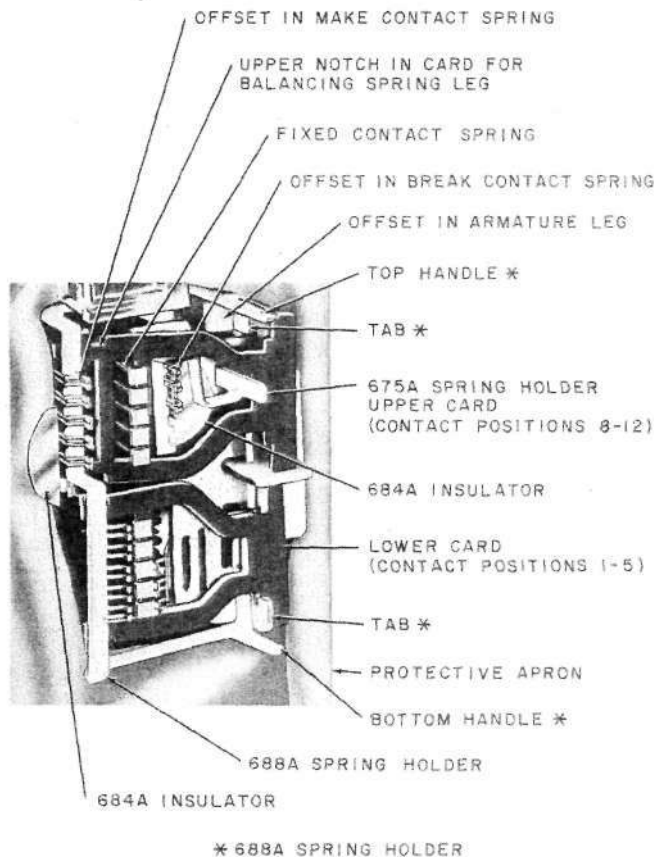

Fig. 3—688 Spring Holder Mounted on AK-Type Relay
lower card as covered in 3.16 if replacing contacts in positions 1 through 5. (See Fig. 3.)
- (3) To disengage the inner balancing spring leg from the card, hold the orange stick in the right hand and insert it between the two cards so the end of the orange stick is against the front molded section. Rotate the orange stick to separate the cards. With a second orange stick, push down on the end of the balancing spring leg and disengage it from the notch in the card. After both legs of the balancing spring are disengaged, remove the blocking tool. Figure 3 shows the balancing spring legs disengaged from the upper card.
(1) If there is an AF-, AG-, AJ-, AK-, AL-, or AM-type relay mounted at the left, insert the 684A insulator to prevent shorting of the movable make contact springs against the core plate of the adjacent relay when these springs are held out of the comb grooves for replacement of contacts. If the relay is mounted adjacent to other apparatus against which the make contact springs may be shorted, insert a 684A insulator between the adjacent apparatus and one or both of the disengaged balancing spring legs as necessary.
(2) To insert a 684A insulator to prevent shorting of the make contact springs, proceed as follows. Using a KS-6320 orange stick, move the inner balancing spring leg to the right. Hold the insulator with the offset end to the left, and insert the other end between the balancing spring leg and the core plate of the adjacent relay. Release the balancing spring leg so it presses against the insulator. With the KS-8511 tweezers, position the insulator so it will insulate all make contact springs from the core plate. With the protective apron in place around the relay, the outer portion of the insulator should rest against the apron as shown in Fig. 3. Due to variations in positioning of the apron, it would be undesirable to rely on the apron to insulate the make contacts.
(1) On these relays, insert a 684A insulator, as covered in 3.17, to prevent shorting of the movable break contact springs with the contact cover spring or core plate during replacement of fixed contacts.
(2) After positioning the insulator as covered in (1), insert spring holders to hold the break contact springs away from the fixed contacts. The 675A spring holder is used for break contact springs in the upper half of the relay (positions 8 through 12) and the 675B spring holder for break contact springs in the lower half (positions 1 through 5). Each of the spring holders has five notches to engage the five pairs of break contact springs with which it may be used. It is important that the pairs of springs are engaged by the proper notches in the holder.
(3) To mount the 675A or B spring holder, proceed as follows. With the right hand, apply the KS-6320 orange stick to the right inner edge of the card and move the card as far to the right as possible. Holding the spring holder in the left hand, insert the notched section of the holder behind the break contacts. Release the card. Swing the handle of the spring holder to the right, and position the holder so each pair of break contact springs is engaged by the proper notch and the inner end of the handle is clipped in the core plate slot directly in front of the armature. Make sure the notched section of the holder is against the comb. Figure 3 shows the 675A spring holder in position in the upper half of the relay.
(4) With the right hand, apply the KS-6320 orange stick to the right side of the card and move the card as far to the left as possible. With the other hand, hold spring holder by the bottom handle and insert the notched section of the holder between the make contacts so that it touches the card. Swing the handle of the holder to the right, and position the notched section behind the make contacts. Release the card. Then, using both hands, grasp the top and bottom handles of the spring holder. Position the holder so its tab is adjacent and in front of the card, and the pairs of make contact springs are engaged in the proper notches. Then, with the springs in the notches, move the holder to the left, and position it so each tab rests against the left side of the adjacent armature leg. Make sure the notched section of the holder is against the offset in the make contact springs, and the inner edge of each tab is against the offset in the armature legs.
(5) Apply the orange stick to the right side of the outer leg of the armature behind the notch for the card, and hold the armature in the unoperated position. Grasp the upper section of the card with the tweezers, and move the card to the right and back so the card is in line with the notch in each armature leg. Then remove the orange stick from the armature, and guide the card in the notches. Figure 3 shows the 688A spring holder position.